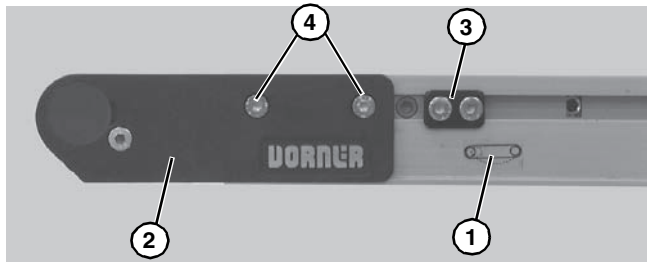

Figure 33
2. On tension end of the conveyor, identified with a  label (**Figure 33, item 1**), push in head plate assembly (**Figure 33, item 2**): On both sides of conveyor, loosen and move cam tracking assemblies (**Figure 33, item 3**) (if equipped) away from head plates, then loosen fastening screws (**Figure 33, item 4**) and push head plate assembly inward.